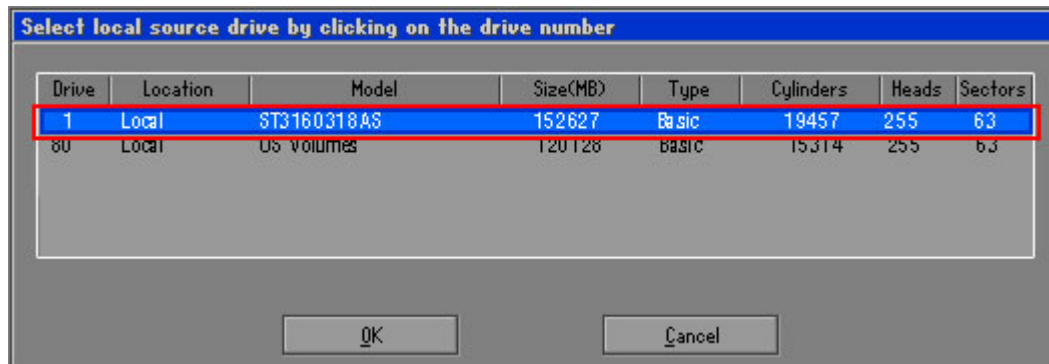

Figure D-14: Select a Local Source Drive
Step 5: Select the local source drive (Drive 1) as shown in Figure D-14. Then click OK.